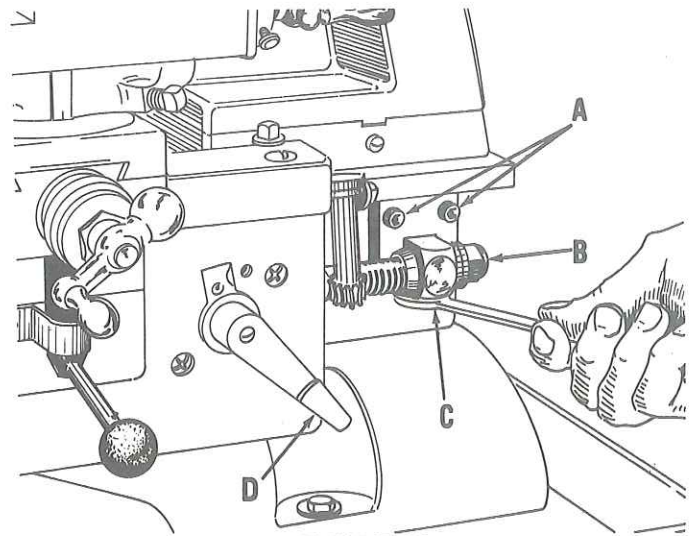

FIGURE 23
3. Loosen but do not remove socket cap screws (A, Fig. 23).
4. Loosen but do not remove hex cap screw (C), or socket set screw on some lathes.
5. Lower half nut lever (D) as shown above to engage half nuts.
6. Tighten screws (A, Fig. 23).
7. Tighten screw (C, Fig. 23).
9. If end play is evident, tighten cone lock nut (B, Fig. 23) just enough to eliminate play—do not over-tighten.